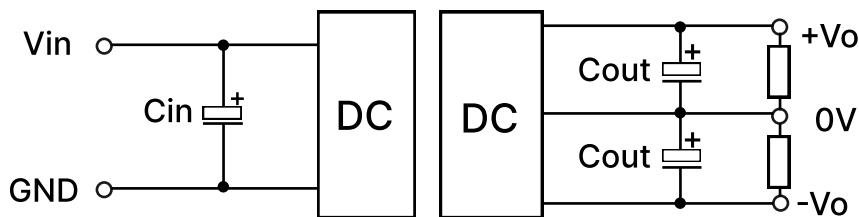

Fig. 2
Notes: For EMC tests we use Part ① in Fig. 2 for immunity and part ② for emissions test. Selecting based on needs.
C3	Refer to the Cout in Fig.2